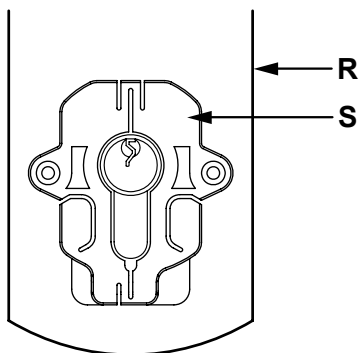

Fig. 6: Base fastener with door leaf
- Loosen the screws **(A)** for the base fastener **(S)** (see fig. 6) on the left and right of the door lock drive with the Allen key supplied.